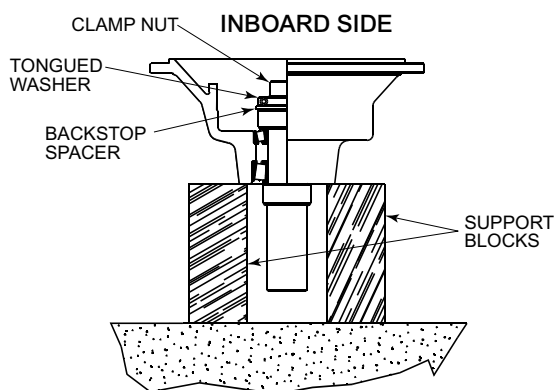

Figure 6.3.2.1 Endbell Disassembly
3. Support hub to expose the inboard side of the endbell; reference **Figure 6.3.2.1**.